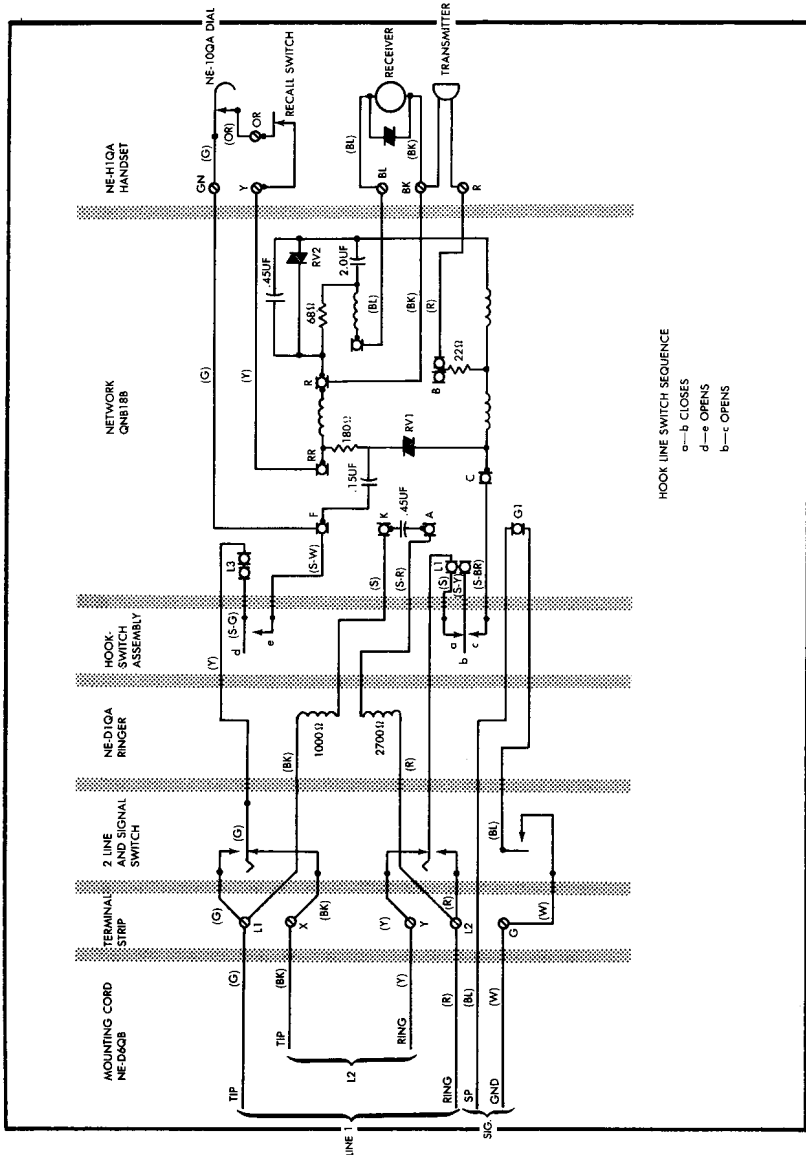

FIGURE 22. QSK110 Telephone Set—Connections Two Line, Rotary Dial
6.02 Connections and options available for the two-line sets QSK110A and QSK2110A are shown in Table F and Figures 22 and 23.